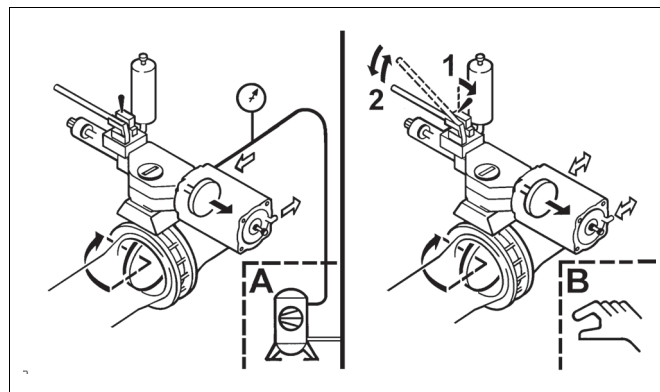

Fig. 10 Operating instructions plate, closing the valve
The actuator is fitted with an instructions plate as shown in Fig. 10. The actions required to close a valve in the open position behind the actuator by pneumatic remote control are illustrated on the left-hand side (A) of the plate.
The actions required for manual control are illustrated on the right-hand (B) side of the instructions plate shown in Fig. 10.